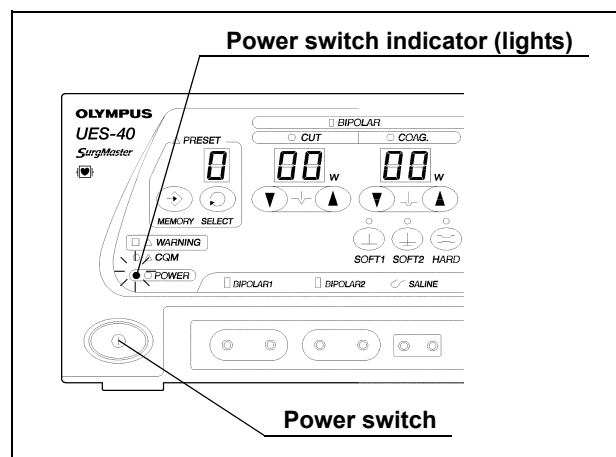

Figure 4.1
1. Set the power switch to ON. Confirm that the power switch illuminates (see Figure 4.1).